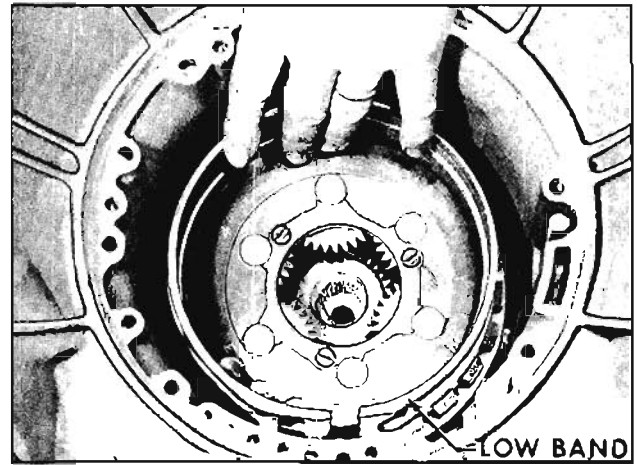

Fig. 6-434 Installing Low Band
2. Install low band into case. (Fig. 6-434)